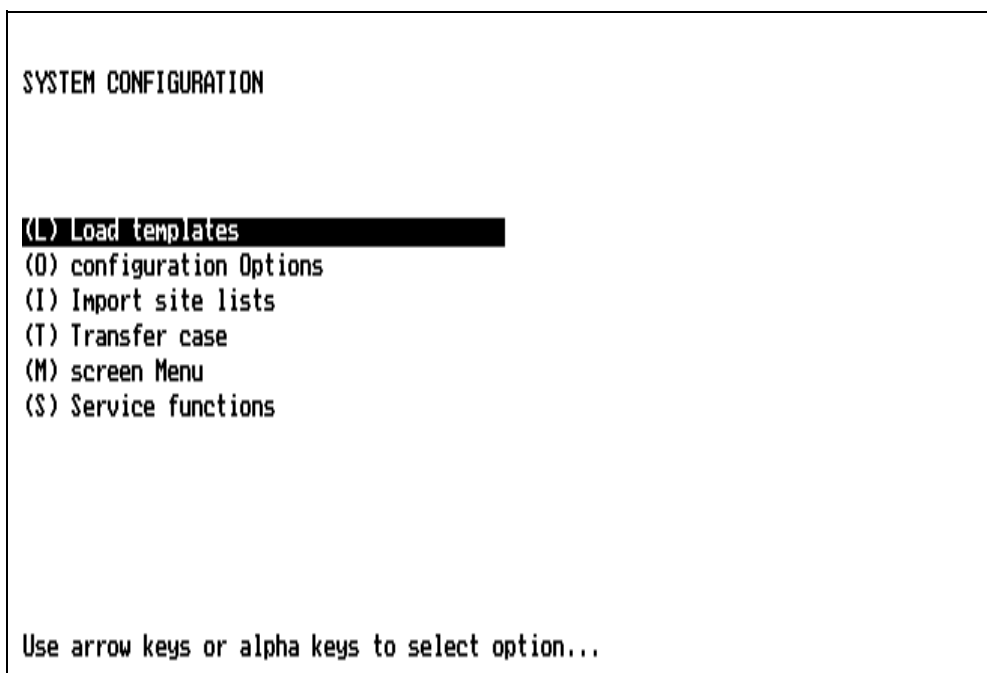

Figure 14B: SYSTEM CONFIGURATION SCREEN
- 3.B When the System Configuration screen is displayed, the cursor will appear in the first row as shown in Figure 14B. Press the S key to select Service functions, or highlight the choice and press the ENTER key or the Datagrip trigger.